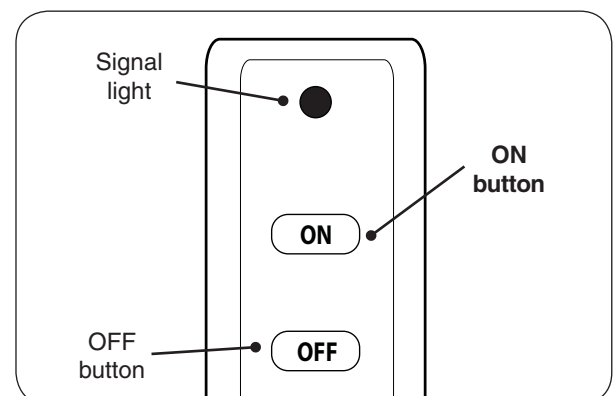

Fig. 39-3 Remote transmitter detail
4. Locate the remote transmitter and press the **ON** button (see Fig. 39-3). The ignition sequence will begin.